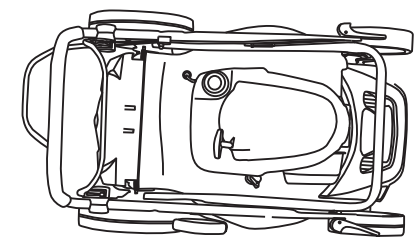

Fig. 12,
2. Release the fixation lever (8) and fold the handle assembly for storage. Ensure that the wires (5, 6) are not trapped (Fig. 12).